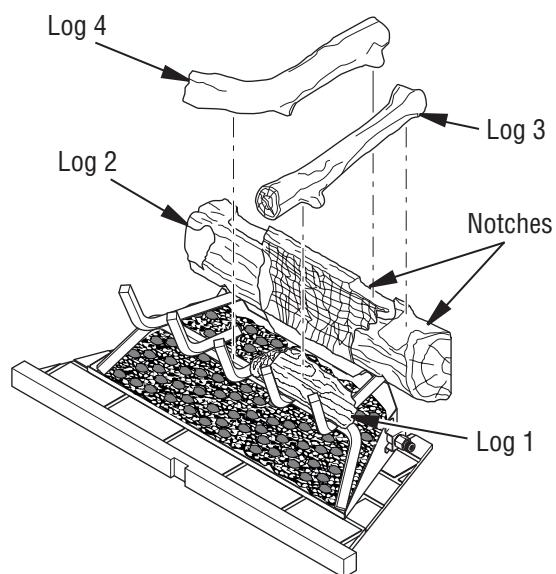
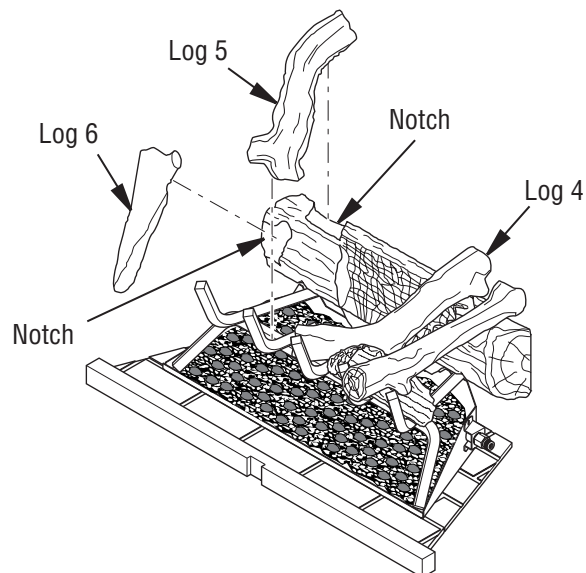
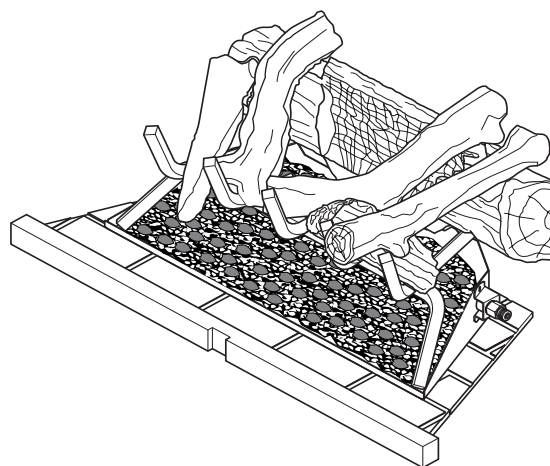

Figure 23 - Installing Logs 3 and 4
Figure 24 - Installing Logs 5 and 6
Figure 25 - Logs Installed for 36" Models
3. Place log 3 into notch on log 2, resting front end on top of log 1 (see Figure 23).
4. Place upper end of log 4 into notch on log 2 as shown in Figure 23. Rest lower end of log 4 onto middle grate finger as shown in Figure 24.
5. Place upper end of log 5 into notch on left of log 2 (see Figure 24). Rest lower end of log 5 on grate as shown in Figure 25.
6. Insert lower end of log 6 between first two grate fingers as shown in Figure 25 and position upper end of log 6 into notched area on front of log 2 as shown in Figure 25.